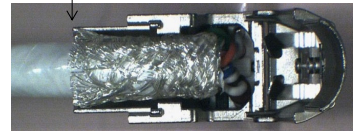

Figure 14 Start shrink even w/ external shoulder
- 12) Verify trimmed fit, lift cable out of cavity enough to locate the ATUM 12/3 x 1.0" dual wall shrink tube over the braid ends. Fit the shrink tube over the braids, to align the start of the ATUM shrink with the external shoulder on the rear body as shown (Fig. 14). Shrink the tubing in location shown, use caution to avoid excessive heat affecting plastic connector components (Fig. 14).